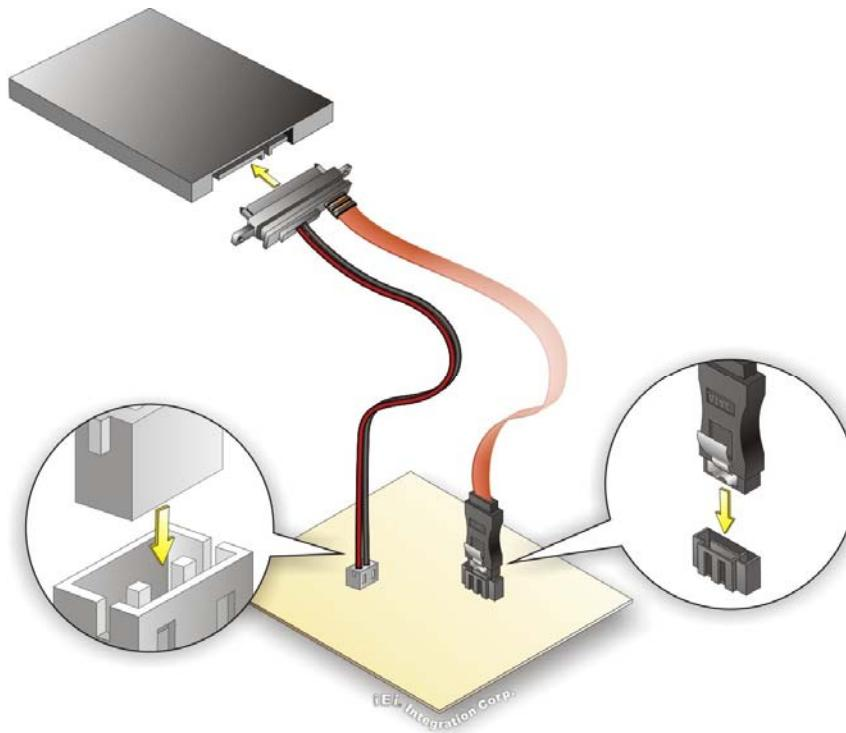

Figure 4-2: SATA Drive Cable Connection
Step 2: Insert the cable connector. Insert the cable connector into the on-board SATA drive connector and the SATA power connector. See **Figure 4-2**.
Step 3: Connect the cable to the SATA disk. Connect the connector on the other end of the cable to the connector at the back of the SATA drive. See **Figure 4-2**.